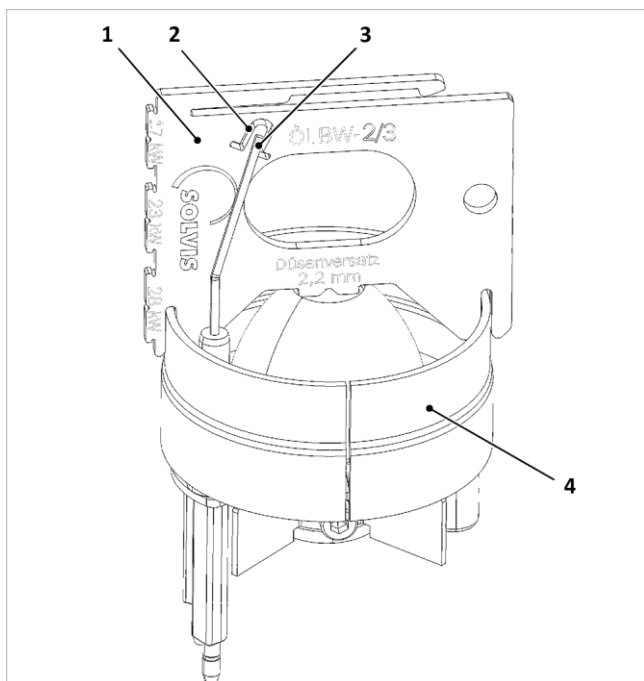

Fig. 150: Check the ignition electrodes
1. Check the position of the electrodes (3) as shown in → fig. 150 and correct by bending them, if necessary.
2. Check the minimum length. The lower end of the control window (2) of the setting gauge specifies the minimum length of the ignition electrodes. If the electrodes are only slightly longer, they should be replaced.